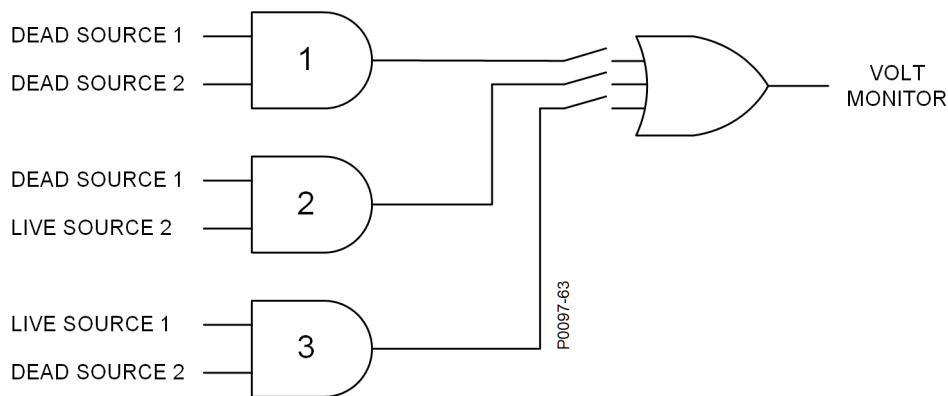

Figure 17-1. Voltage Monitor Logic
The Volt Monitor logic is illustrated in Figure 17-1. Any combination of logic settings can be selected for the Voltage Monitor Logic on the Sync-Check (25) settings screen in *BESTCOMSPlus*. When a logic combination is selected, the sync-check element closes the respective switch in Figure 17-1 associated with each of the outputs.